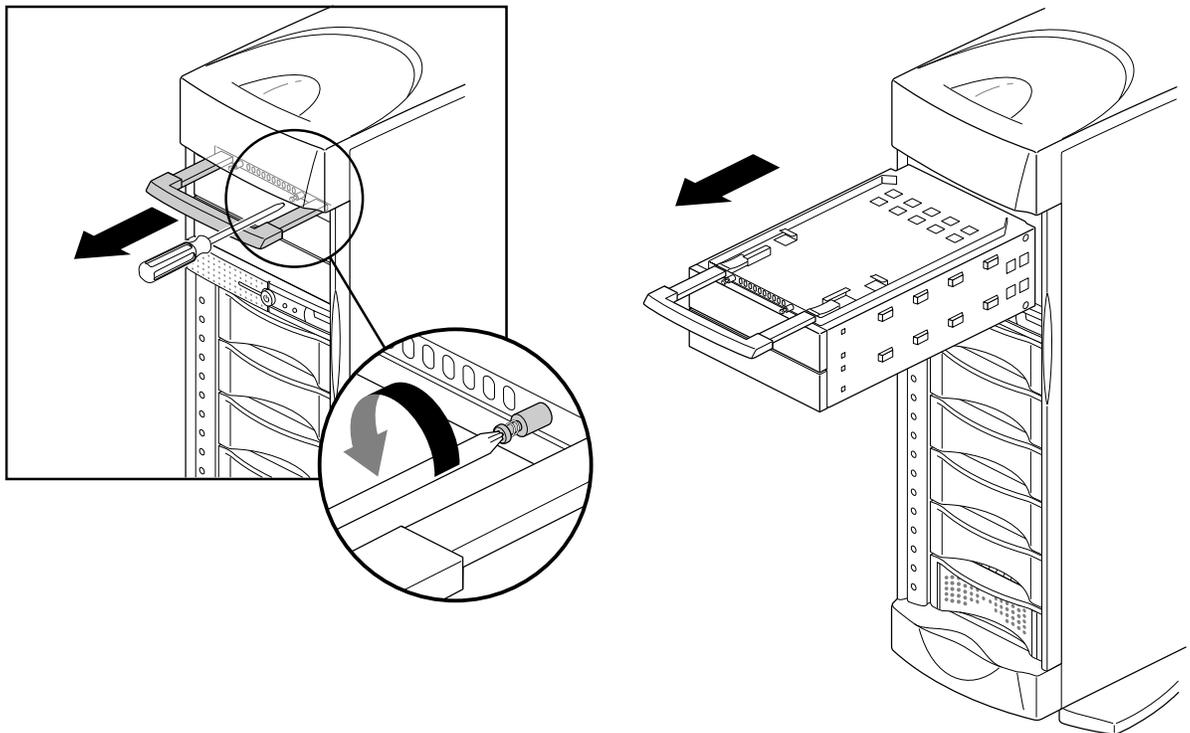

Figure 6-6 Removing the Peripheral Carrier
2. Remove the peripheral carrier, as shown in Figure 6-6.